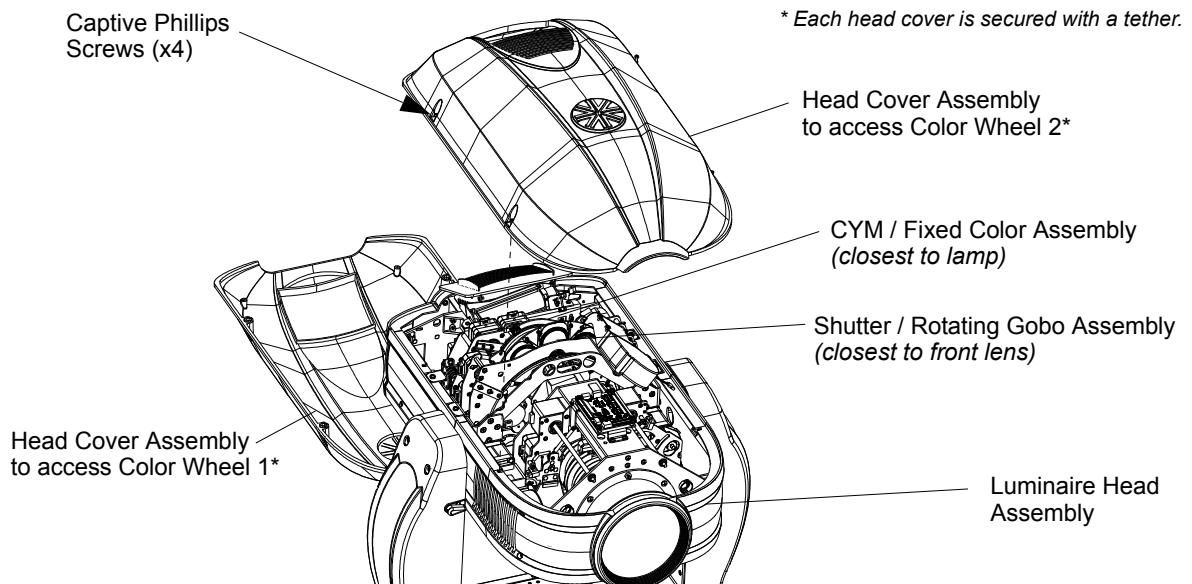

Figure 2-4: Replacing Fixed Color Filters
- For Fixed Color Wheel 1 (closest to the rear of luminaire), remove head cover assembly as indicated in Figure 2-4 by loosening four captive screws and lifting cover away from luminaire head. Note, head cover is attached by a safety tether.
- For Fixed Color Wheel 2 (closest to the front of luminaire), remove head cover assembly as indicated in Figure 2-4 by loosening our captive screws and lifting cover away from luminaire head. Note, head cover is attached by a safety tether.
- a. For Rotating Gobo Wheel 1 (closest to the rear of luminaire), remove head cover assembly as indicated in Figure 2-4 by loosening our captive screws and lifting cover away from luminaire head. Note, head cover is attached by a safety tether.
- b. For Rotating Gobo Wheel 2 (closest to the front of luminaire), remove head cover assembly as indicated in Figure 2-4 by loosening our captive screws and lifting cover away from luminaire head. Note, head cover is attached by a safety tether.